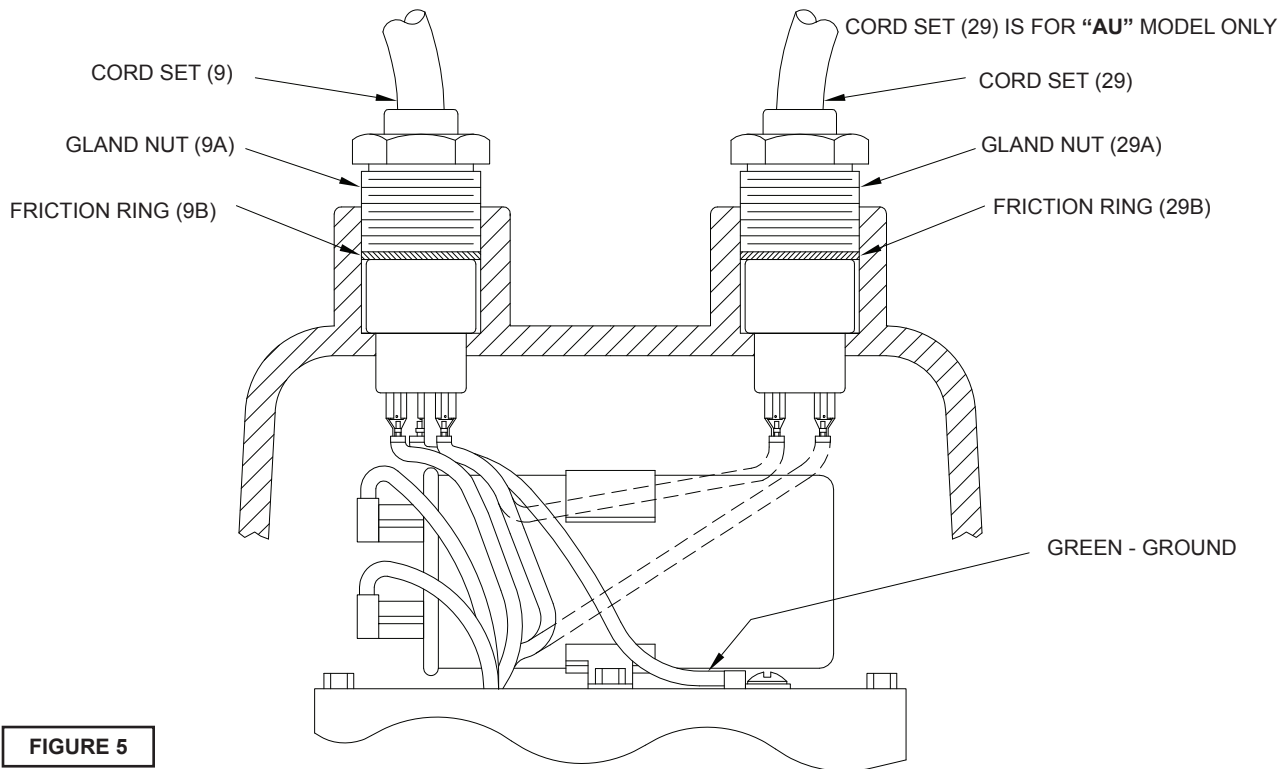
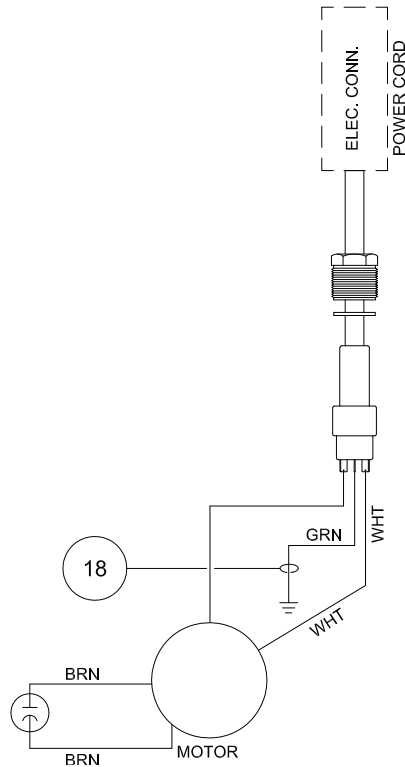
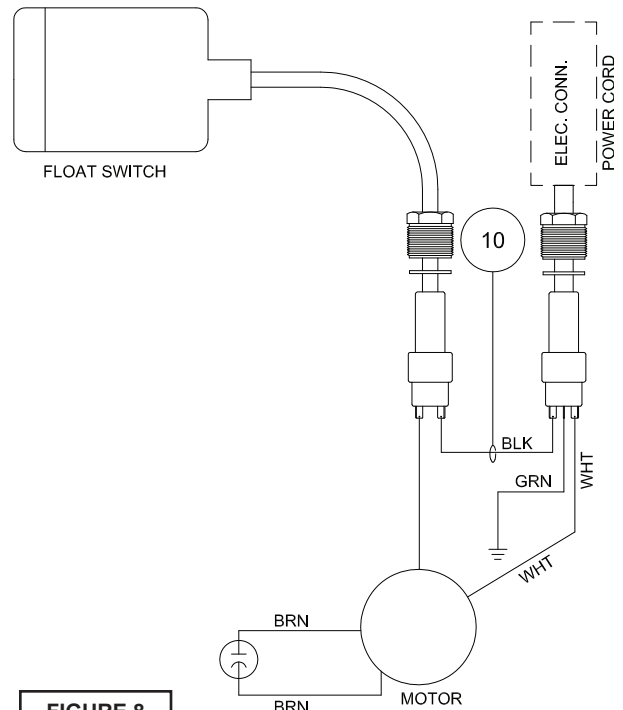

FIGURE 5
FIGURE 7
FIGURE 8
BP & SE Series, Motor - To examine or replace the motor (1) or bearing (4), remove body and impeller as per section F-2.1. Drain oil from motor housing as per section F-1.2. Remove gland nut (9a) and friction ring (9b) from motor housing (14). Pull cord through opening and disconnect the motor wires from the terminals on cable (9), see Figure 5. Remove socket head screws (15) and lift motor housing (14) from seal plate (2). Remove o-ring (13) and inspect for breaks. Loosen motor screws and pull motor (1) straight up and off seal plate (2). Inspect all parts for signs of wear and check motor resistance values.
On "AU" series pumps gland nut (29a) and friction ring (29b) must also be removed from motor housing (14) and pulled through opening and motor wires from the terminals on cable (2), see Figure 5.
On **BP & SE Series**, slip motor wires through opening in motor housing (14) see Figure 5. Connect motor wires to cord set as per Figure 7. Place friction ring (9b) and gland nut (9a) into motor housing (14) and tighten gland nut to 17.5 ft. lbs. On **"AU"** series pumps slip float wires through opening in motor housing (14) and connect to float cable (29) see Figure 8. Place friction ring (29b) and gland nut (29a) into motor housing (14) and tighten gland nut to 17.5 ft. lbs.